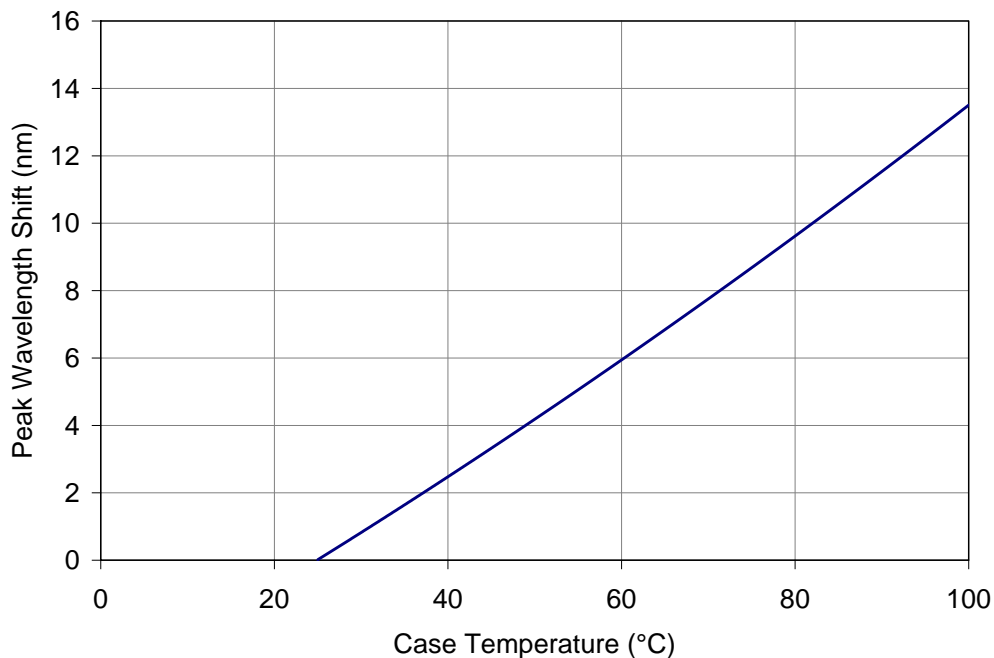

Figure 10: Typical peak wavelength shift vs. case temperature.
- Maximum DC forward current (per die) is determined by the overall thermal resistance and ambient temperature. Follow the curves in Figure 10 for current derating.